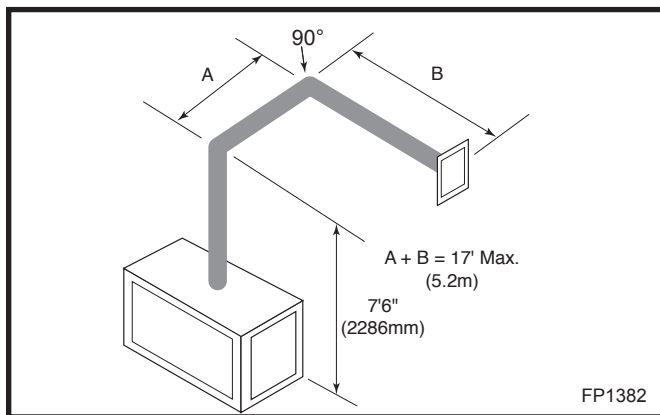

Fig. 21 Maximum vent run with elbows.
Combustible Walls: Cut a 10⅜" H x 9⅞" W (265 x 240mm) hole through the exterior wall and frame. (Fig.21)
- If a 90° elbow is used in the horizontal vent run (level height maintained) the maximum horizontal vent length is reduced by 36" (914 mm). (Fig. 21) This does not apply if the 90° elbows are used to increase or redirect a vertical rise. (Fig. 21)
Dimension A plus B must not be greater than 17' (5.2m). (Fig. 21)